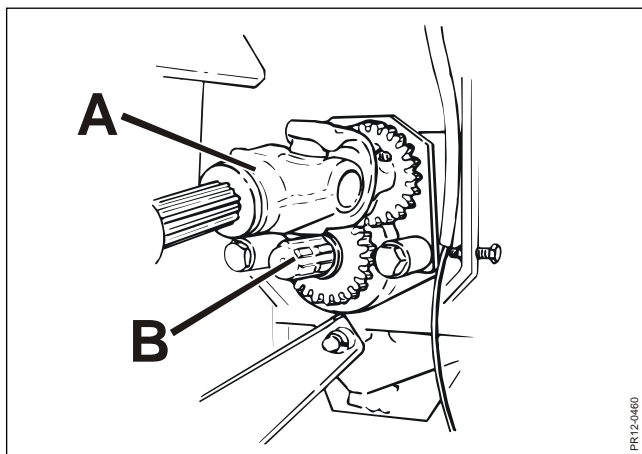

Fig. 6-11
- Fig. 6-11** 2) Move the PTO shaft **A** from the rotor to the alternative pin in **position 1** where the gear wheels
- Fig. 6-11** 4) After reversing, disconnect the tractor's power take-off again, stop the tractor and move the PTO shaft **A** back to the pin **B** for driving the rotor.